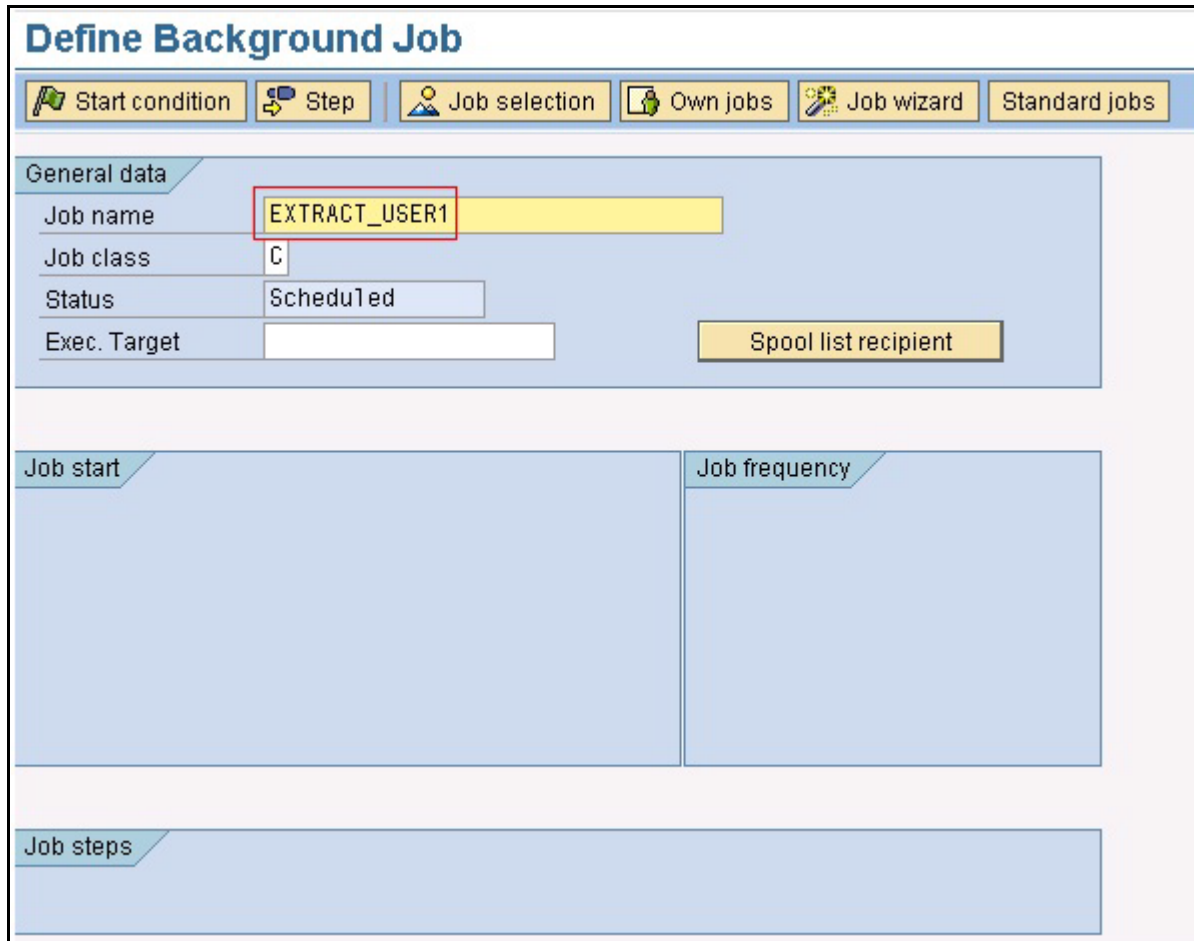

Figure 4-1: Define Background Job Screen
- 1 In the SAP interface, enter transaction `SM36`. The *Define Background Jobs* screen appears. See Figure 4-1.